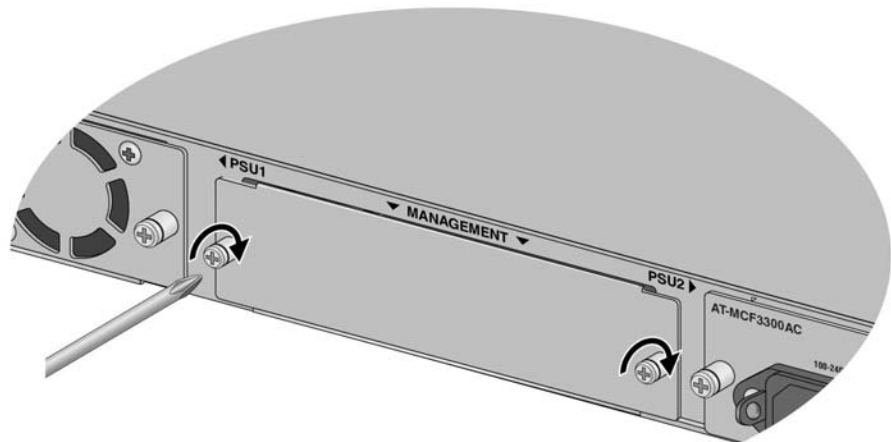

Figure 82. Tightening the Captive Screws on the Blank Management Slot Cover
8. Tighten the two captive screws with a cross-head screwdriver. Refer to Figure 82.